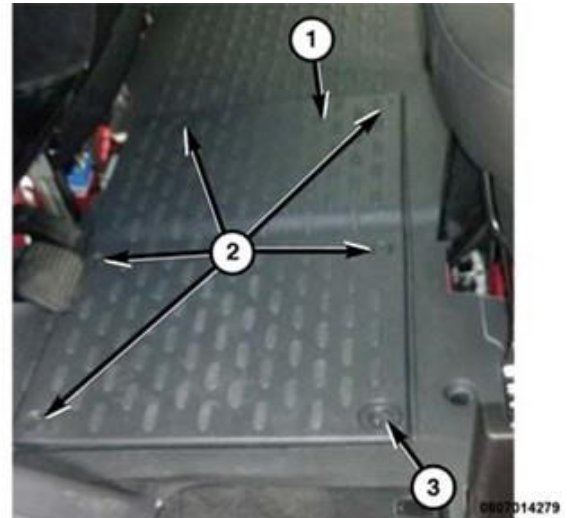

Figure 8 – Battery Cover
B. Replace The Rearview Camera (VF) Ram ProMaster
3. Remove the battery cover (1) by loosening fasteners (2, 3) (Figure 8).
20. Install the battery cover (1) and related fasteners (2, 3) (Figure 8).